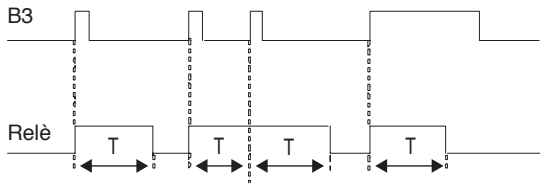

Fig. 12
- ON/OFF monostable commands: with local and / or remote button for stair or hallway lighting with automatic switch off (see Fig. 12)